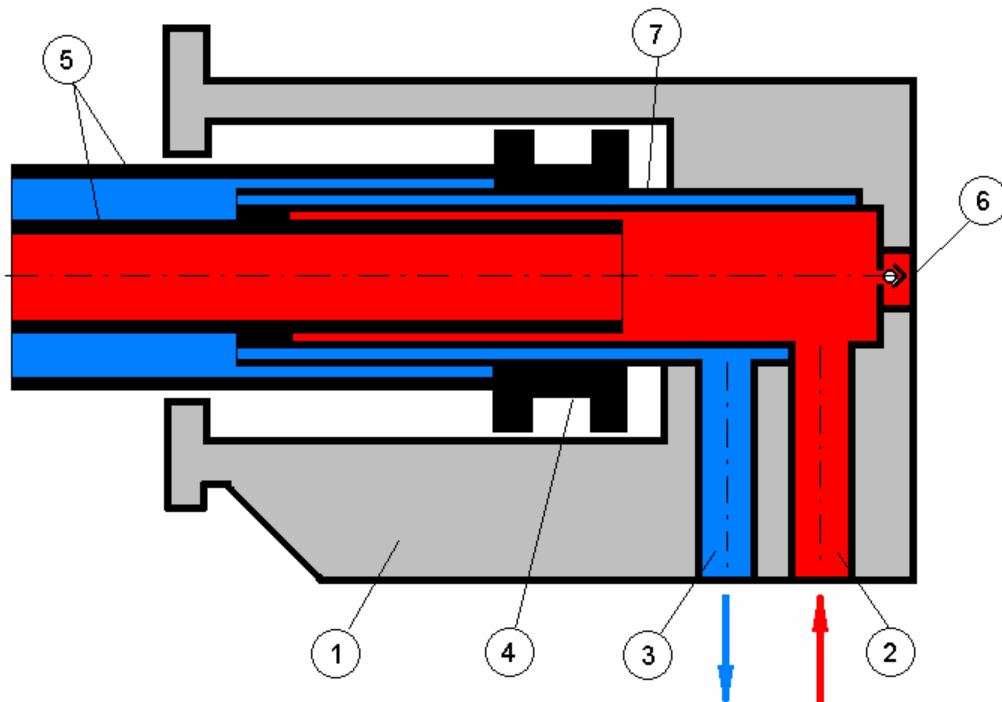
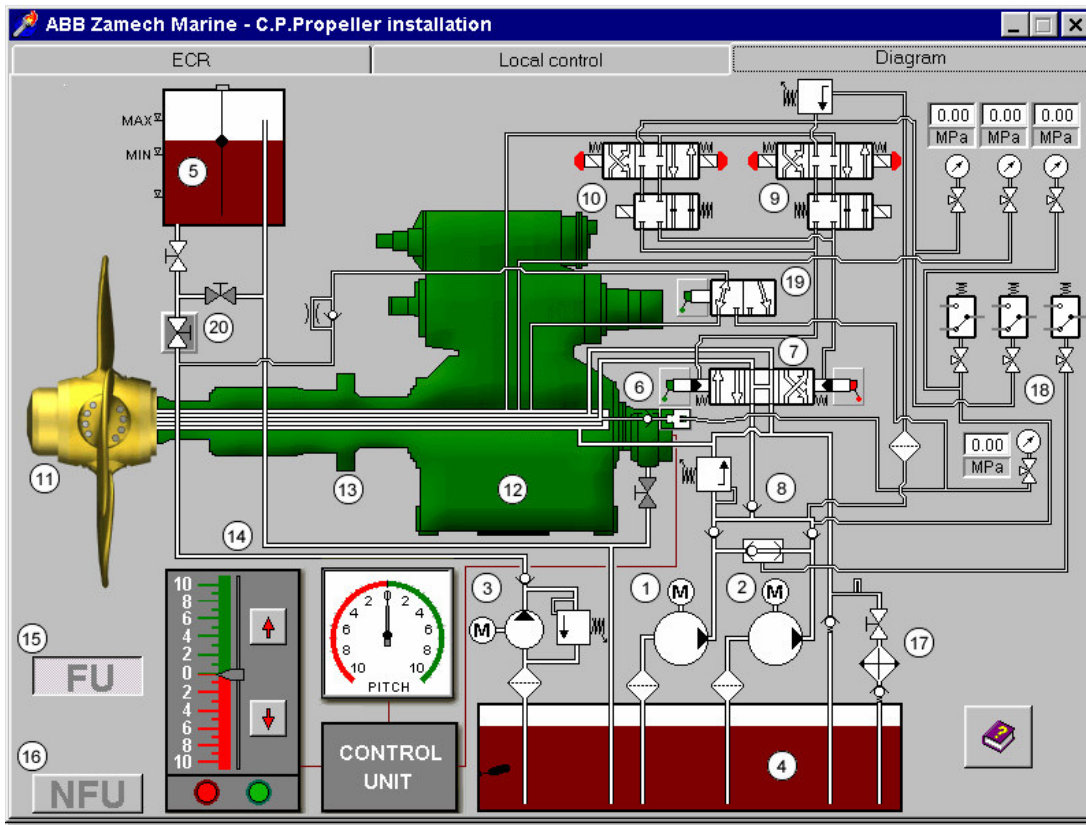

Fig .3 Oil distribution box
Fig. 4 C.P. propeller installation diagram
## 4. Oil distribution box - Fig. 3 and Fig. 4
## 5. Oil system - Fig. 4
6. The remote control system (Fig. 4)
- a) local control by means of mechanical lever connected to the pitch control block B2S. In simulator conditions this type of control is possible by means of mechanical levers placed on both ends of pitch control block B2S (Fig. 4 Pos. 7).
- b) non-follow up remote control by means of push buttons located on the bridge or ECR manoeuvring unit. (Fig. 4 Pos. 14). Both the local control and the remote non – follow up control by means of push-buttons are treated as emergency control modes. In case such emergency control mode is used, a three-position distributor is also applied (Fig.4 Pos. 10). However, the main engine load control system does not function in this control mode.
- a) open the shut-off valve at the installation diagram (Fig . 4, Pos. 20)
- d) Pitch propeller remote control mode may be set up as follow-up control by pressing the push button **FU** (Fig. 4 Pos. 15). Once the follow – up mode is set, it is possible to adjust the propeller pitch by mouse clicking on the arrow field **AHEAD** - marked with green colour on lever's scale or **ASTERN** - marked with red colour on lever's scale .
Pitch propeller remote control mode may also be set up as non- follow-up control (regarded as emergency mode in case of follow-up system failure) by pressing push button **NFU** (Fig. 4 Pos. 16). In case of non follow-up operation, pitch adjustment is done by pressing push buttons - green button **AHEAD** or red button **ASTERN**. Actual propeller blades position on the 0 up to 10 scale **AHEAD – ASTERN** is indicated on **PITCH** gauge.
At follow-up operation, control signal originates from pitch lever control unit, located on manoeuvring stand on the bridge. Once the signal is amplified it reaches **CONTROL UNIT** that constitutes a comparison element. Depending on demanded pitch propeller setting, control signal is delivered to electromagnetic coil of distributors block **BR** (Fig. 4 Pos. 9) .
In consequence, control oil is supplied on either the fore or aft side of three-way slide valve of pitch control block **B2S**. By changing the slide valve of pitch control block **B2S**, the oil from Main aggregate pump is delivered to servo motor cylinder. In consequence, the propeller blades adjustment changes . A change in the propeller blades adjustment activates the feed-back device. The feed back device sends to the comparison element an information about actual propeller blades position. At follow-up control mode, supply of oil for servo motor cylinder will cease when feed-back device directs to the comparison element a signal indicating that demanded propeller adjustment has been achieved. At non follow-up control mode, electrical signal from push button **AHEAD** or **ASTERN** is directly transmitted to electromagnetic coils of the distributor block **BR** (Fig. 4 Pos. 10). The blades' displacement continues as long as the push button **AHEAD** or **ASTERN** is pressed.
- d) local control of pitch propeller adjustment is done by acting manually on three - ways slide valve of block B2S – in simulator conditions this it is achieved by mouse clicking on field of green lever AHEAD or on field red lever ASTERN (Fig. 4 Pos. 7)